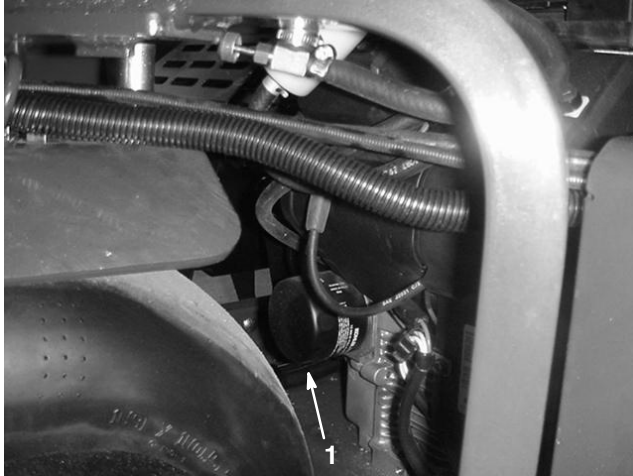

Figure 46
3. Place a pan below the oil drain. Remove the oil drain plug to allow oil to drain (Fig. 46).